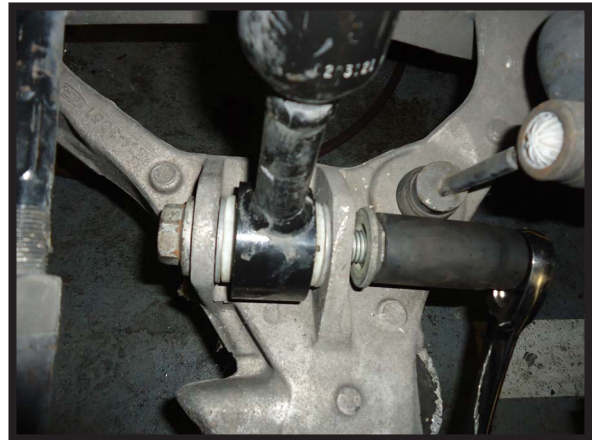

FIGURE 10-5
7. LOOSEN AND REMOVE THE TOP THREE (3) MOUNTING NUTS AND BOTTOM MOUNTING NUT/BOLT. (FIGURE 10-5)